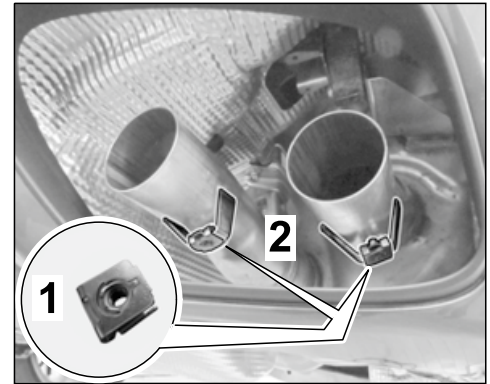

Figure 24
3.4.2 Install new speed nut (M6 x 19.5 x 18 – VW602 49, 2 x) on holders on exhaust pipes of new rear mufflers (left/right ⇒ *Figure 24*).